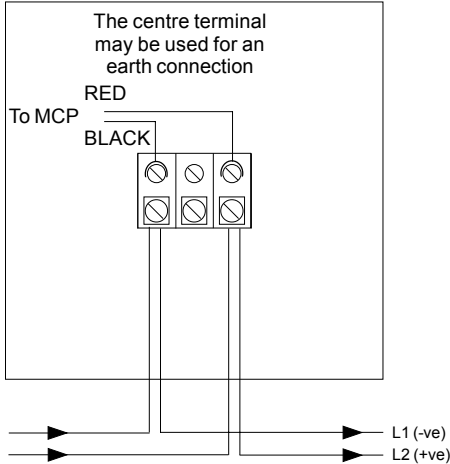

Fig 2. Terminal tray Connection Diagram
2. Run the cables from the XP95 loop into the box and connect to the terminal tray as shown in Fig 2. Ensure that earth continuity is maintained.
6. Undo the small front cover retaining screw and remove the call point front cover. Remove the 'NOT IN USE' insert. Connect all cables as shown in Fig. 2, secure the call point to the terminal tray and fit either the 'NOT IN USE' insert or the glass as required. Finally, replace the front cover.